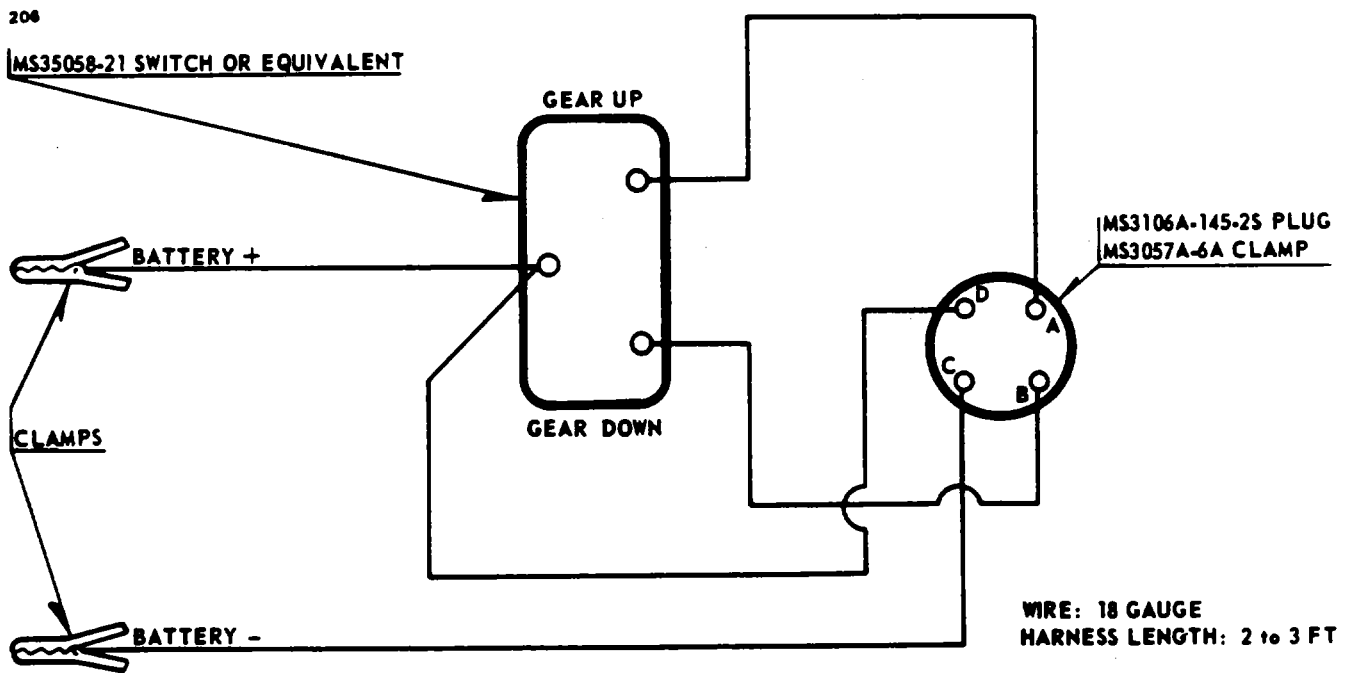

Figure 29-13. Power Pack Test Harness Schematic
2. Connect a test harness to the electrical plug of the Power Pack and to power source. (Test harness may be fabricated as shown in Figure 29-13.)
For the control of the door valve solenoid, it will necessary to fabricate an electric harness as shown in Figure 29-13. This harness, when connected to a 24 volt battery will allow control of the electrical current to the door valve solenoid, permitting operation of the hydraulic door circuits.